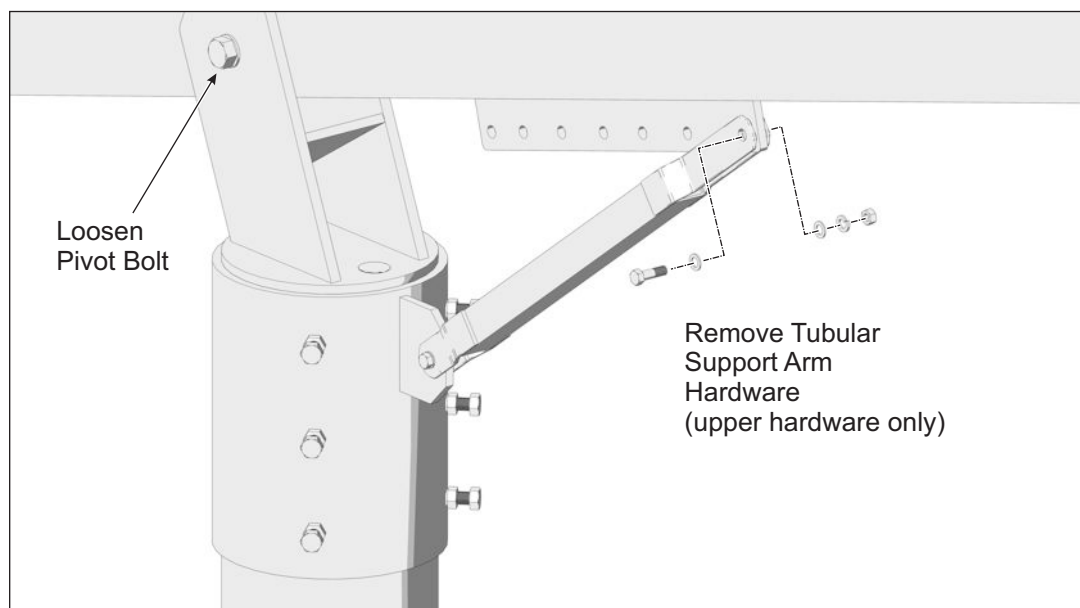

Figure 7-1: Preparing to Adjust the Tilt Angle
- A. While one person holds the south edge of rack, the other loosens the Pivot Bolt and removes the upper 1/2" hardware attaching the Support Bar to the Strongback. (See Figure 7-1)